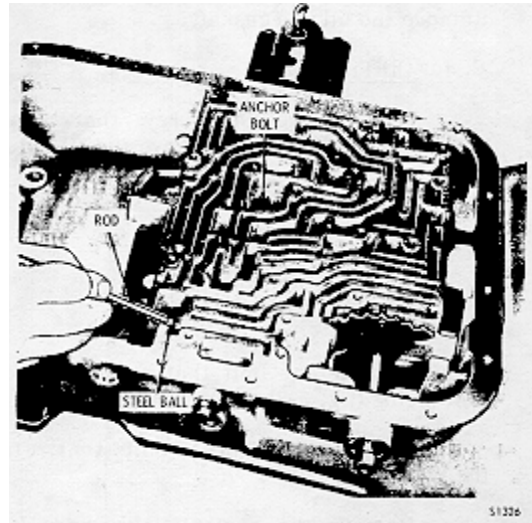

Fig. 5-8. Removing governor check ball
f. Apply a small amount of oil-soluble grease to the end of a nonmagnetic rod (1/4- inch diameter). Insert the rod (greased end first) into the valve body cavity and remove the ball (fig. 5-8).
g. Remove the center support anchor bolt and flat washer (fig. 5-8).